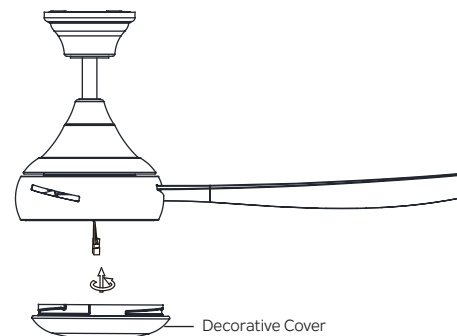

Fig. 21
Step 1. Raise the decorative cover up to the fan, seat against the mounting plate, and turn clockwise into the mounting plate until snug, **DO NOT OVER TIGHTEN.** (Fig. 21)